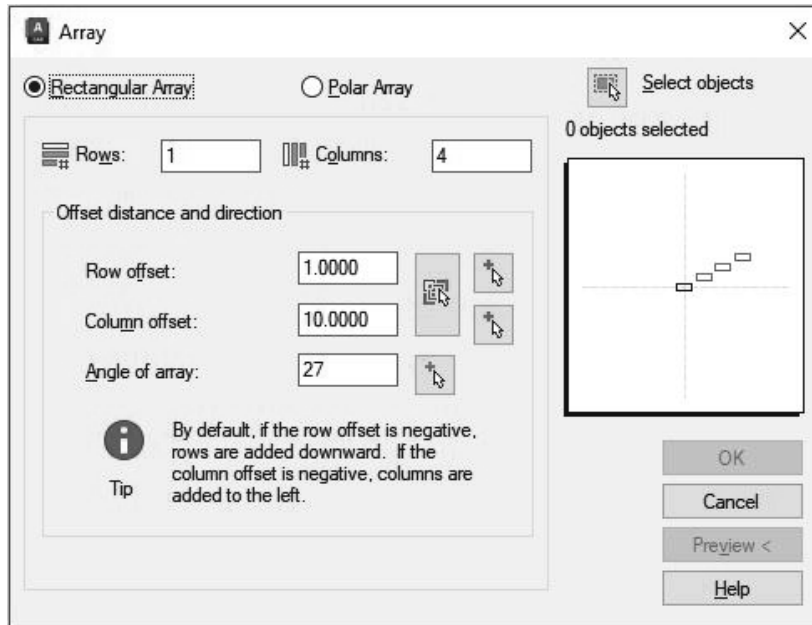

Figure 1.6 Array dialog box
3. Pick the “Angle of array” button shown in Figure 1.6; The dialog box will close temporarily to allow you to select two points in response to the prompt **Specify angle of array.**
Don't be fooled by the integer of 27 shown for the angle in Figure 1.6. The actual angle may be different. Why? Because the default precision for angle display is 0, which means all angles are rounded to a whole number for display purposes only. If I change the angular precision using either the variable AUPREC or the Units dialog box, you'll see the angle in this case is actually 27.37591770°. This often fools people when linear distances are displayed, as well. (Linear precision can be set with the LUPREC variable or the Units dialog box.)